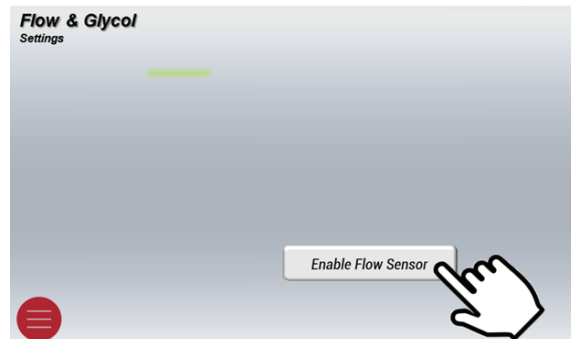

Figure 63. Enable Flow Sensor
4. You will see a "Enable Flow Sensor" button, press to enable. See **Figure 63**.